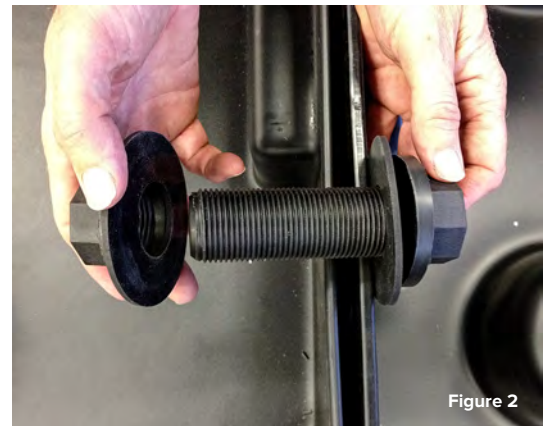

Figure 2
- Place a gasket over the thread of the bulkhead fitting and from the inside of the bund, push the bulkhead fitting through the hole. The fixed hex nut and gasket should be inside the bund (Fig 2).